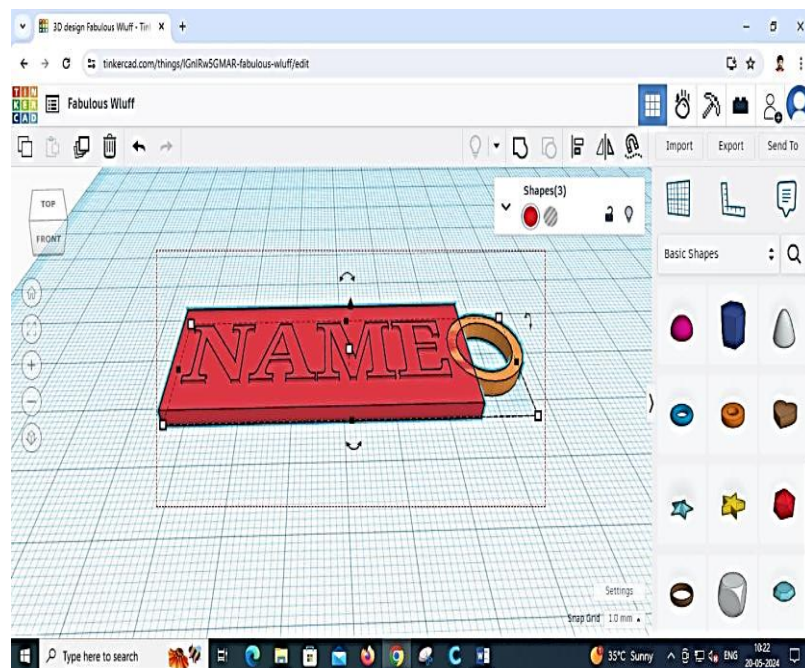

Fig. 4.21: Selecting the Overall design
10. Click and drag as square around your entire design (Fig. 4.21).